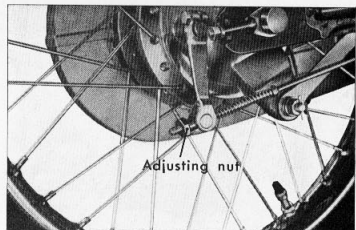

Figure 6-37. Adjusting rear brake
- b. Adjustment is made by the adjusting nut. (Fig. 6-37)